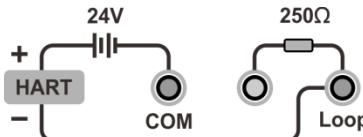

Figure 9 HART-External power and external resistance
- 3) The connection method of external power supply and external resistance is shown in Figure 9;